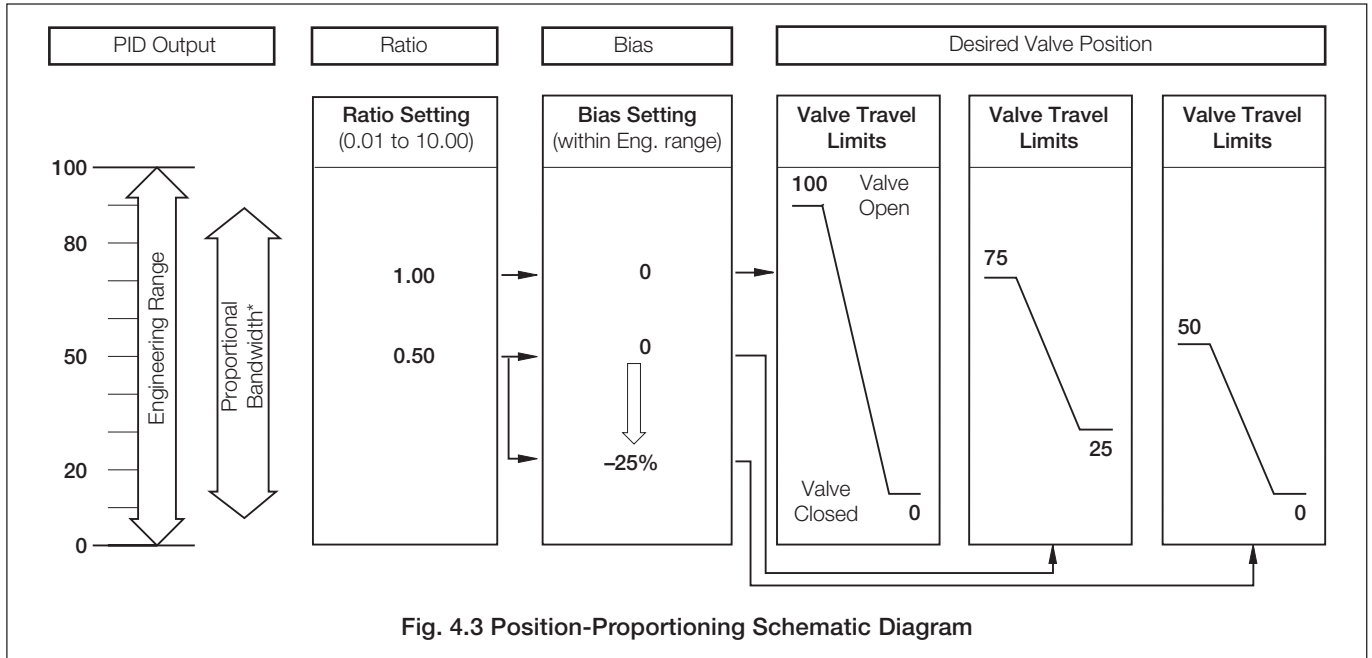

Fig. 4.3 Position-Proportioning Schematic Diagram
4.2.1 Motorized Valve with Feedback (Position-Proportioning) – Fig. 4.3